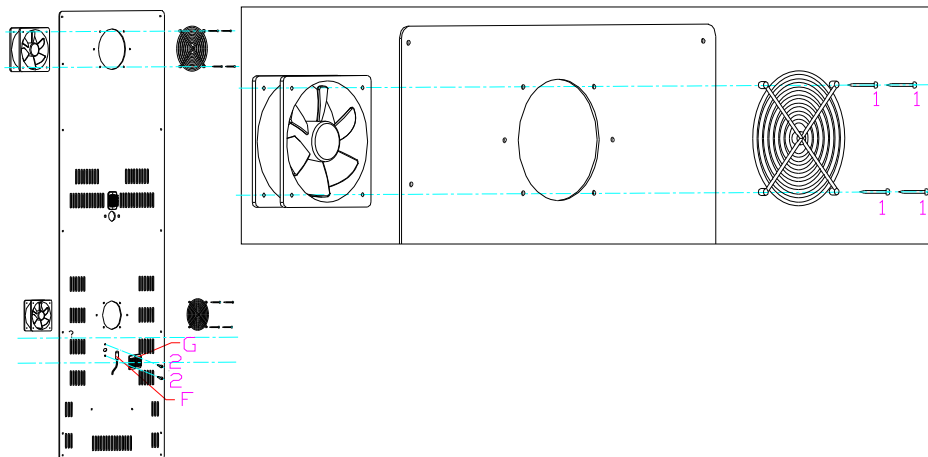
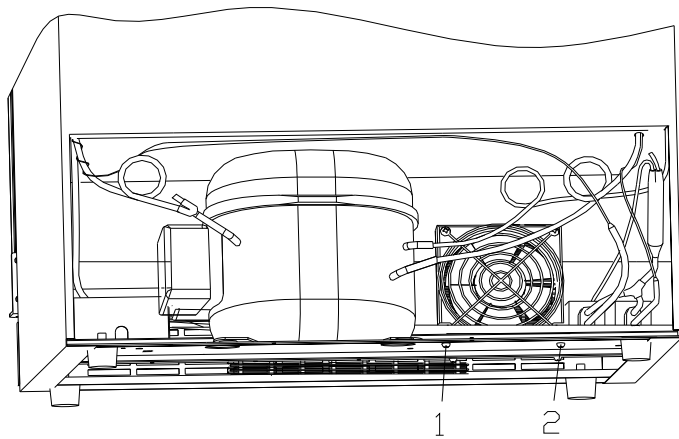
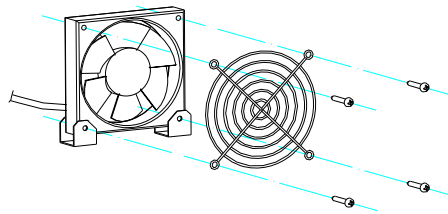

Fig. 5
Fig. 6
Fig.6.1
3>. Remove 4 fixing screws(1) of the fan,replace it with new one. (Fig.5)
b. lean back the unit with angle 45°,remove the fixing screws(1,2) of the fan from bottom of the compressor branket with crossing head screwdriver.and replace it. (→5) (Fig.6 & Fig.6.1)
- 2 >.If the fan is damed seriously or brocken, replace it with the new fan(Fig.5)
The unstable temperature is caused by the evaporator fans cease, and it can be check by the below method: When the compressor is running, the light “Run” is on, the fan should be running, if the fan stop, check the whether is any fault in the fan or fan connection. If the fan is broken, replace it with the fan of the same model. (→5) (Fig.5 & Fig. 6 & Fig. 6.1).
1> . The LED display shows E1, and it is the upper zone's sensor open circuit fault, check the connection wire and the main board whether plough, if not , replace the sensor with the same module. See(→5) (Fig.5.)
2> . If the LED displays "E2" indicates upper zone's sensor short circuit fault, check the connection wire and the main board whether it is in good condition, if yes,the sensor should be replaced see (→5) (Fig.5)
3> . The LED display shows E3, and it is the middle zone's sensor open circuit fault, check the connection wire and the main board whether plough, if not, replace the sensor with the same module. See(→5) (Fig.5.)
4> . If the LED displays "E4" indicates middle zone's sensor short circuit fault, check the connection wire and the main board whether it is in good condition,if yes,the sensor should be replaced see (→5) (Fig.5)
5> . The LED display shows E7, and it is the lower zone's sensor open circuit fault, check the connection wire and the main board whether plough, if not, replace the sensor with the same module. See(→5) (Fig.5.)
6> . If the LED displays "E8" indicates middle zone's sensor short circuit fault, check the connection wire and the main board whether it is in good condition,if yes,the sensor should be replaced see (→5) (Fig.5)
2> . Remove the airduct board (→5) (Fig. 6& Fig. 6.1)
3> . Pull out 2 fixing plastic nails(2),the cover of the sensor will loose down,take away the sensor(F),replace it(→5) (Fig.5).